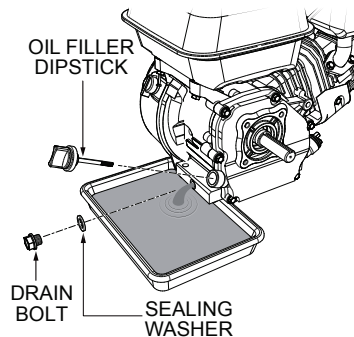

Figure 39. Draining Engine Oil
1. Unscrew the oil filler dipstick (Figure 39) from its holder.
2. Remove the oil drain bolt and sealing washer and allow the oil to drain into a suitable container (Figure 39).